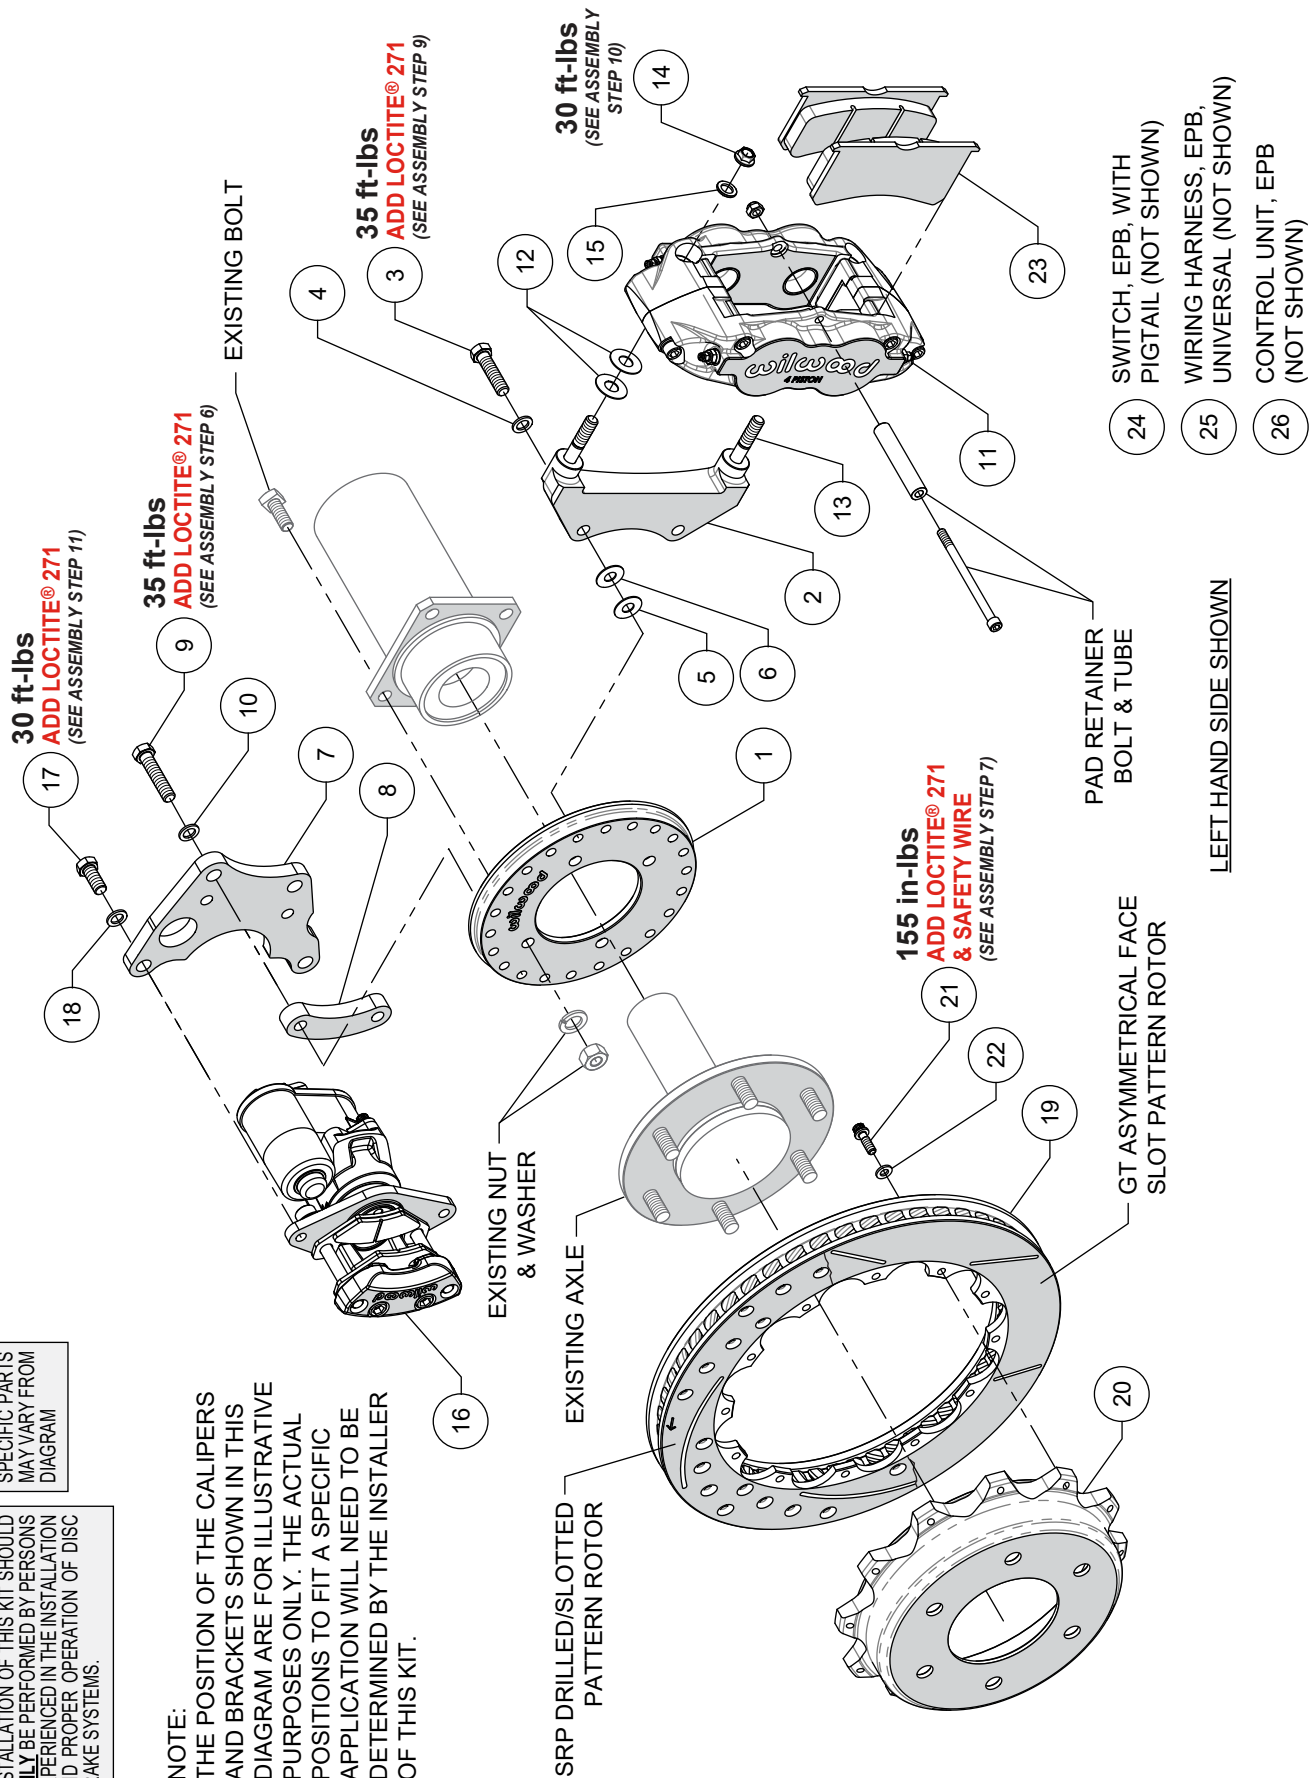
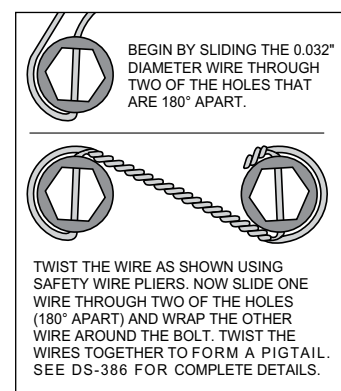

Figure 1. Typical Installation Configuration
Figure 3
NOTE: Numbers in parenthesis refer to the parts list and Figure 1 on the preceding pages.
STEP 1 Orient the backing plate (1) as shown in Figure 1 and Photo 1 and mount it to the axle housing flange using existing bolts, washers, and nuts. Ensure the backing plate fits flush against the axle housing flange. Torque nuts to manufacturer's specifications.
STEP 3 Start by determining the best location for the service caliper (11). This caliper is usually mounted in the 3:00 or 9:00 o'clock position, but may be rotated up or down approximately 45 degrees and still allow for proper bleeding, Photo 2. Orient the service caliper bracket (2) as shown in Figure 1 and Photo 3. Install bracket (2) to the backing plate (1) in the desired location using bolts (3), washers (4), and two .035" shims (5) placed between the bracket and backing plate, Figure 1. Temporarily tighten bolts. Next, mount the service caliper to the bracket (2) using lock nuts (14) and washers (15). Temporarily tighten bolts. Check that the caliper (including inlet fitting and hose) has sufficient clearance to all surrounding components through the full suspension travel. Relocate the caliper/bracket on the backing plate as needed to ensure proper clearance is achieved.
STEP 4 Determine the best location for the EPB caliper (16). **NOTE:** *The EPB caliper motor extends farther inboard than the service caliper and therefore needs additional consideration when determining a mounting location with sufficient clearance.* In the example application shown in Photo 4, the EPB caliper has sufficient inboard clearance to the leaf spring. However, if the EPB caliper were mounted closer to the 12:00 o'clock position, the inner body of the vehicle would hit the caliper during full compression of the suspension.
STEP 5 Orient the EPB caliper bracket (7) as shown in Figure 1. Install to the backing plate (1) in the desired location using bolts (9), washers (10), and spacer (8), Figure 1 and Photos 5 and 6. Temporarily tighten bolts. **NOTE:** *The EPB bracket is reversible.*
STEP 6 Once the caliper positions have been determined, remove both the service (11) and EPB (16) calipers, leaving both brackets in place on the backing plate. Remove the EPB bracket bolts (9) one at a time, apply red *Loctite*® 271 to the threads, and torque to value shown in Figure 1.
STEP 7 Orient the rotor (19) and the hat (20) as shown in Figure 1 and Photo 7. Attach rotor to hat using bolts (21) and washers (22). Apply red *Loctite*® 271 to the bolt threads and torque to value shown in Figure 1 using a criss-cross pattern. For an added measure of security, the bolts may be safety wired using standard 0.032 inch diameter stainless steel safety wire as shown in Figure 3. Refer to Wilwood's data sheet DS-386 (available at www.wilwood.com/Pdf/DataSheets/ds386.pdf) for complete safety wire installation instructions.
STEP 9 Initially place two .035" thick shims (12) on each stud (13) between the caliper and the radial mount caliper bracket, as shown in Figure 1 and Photo 8. Remount the service caliper (11) onto the caliper mounting bracket (2) using lock nuts (14) and washers (15), as shown in Figure 1. Temporarily tighten the lock nuts and view the rotor through the top opening of the caliper. The rotor should be centered in the caliper, Photo 9. If not, adjust by adding or subtracting shims (5 and/or 6) as necessary between the radial mount caliper bracket (2) and the backing plate (1). Always use the same amount of shims on each of the mounting bolts. Once the caliper alignment is correct, remove the radial mount caliper bracket bolts (3) one at a time, apply red *Loctite*® 271 to the threads, and torque to value shown in Figure 1.
STEP 10 Remove the caliper pad retainer bolt, nut, and tube from the caliper, Figure 1. Insert the brake pads (23) into the caliper, with the friction material facing the rotor, as shown in Photo 10. Check that the top of the brake pad is flush with the outside diameter of the rotor, Photo 11. If not, adjust by adding or subtracting shims (12) between the caliper and the bracket (2). After the caliper pad height is set, torque the caliper lock nuts (14) to value shown in Figure 1. Secure the brake pads in place with the pad retainer tube, bolt, and lock nut. The lock nut should be snug without play in the bolt or tube. Be cautious not to over tighten.